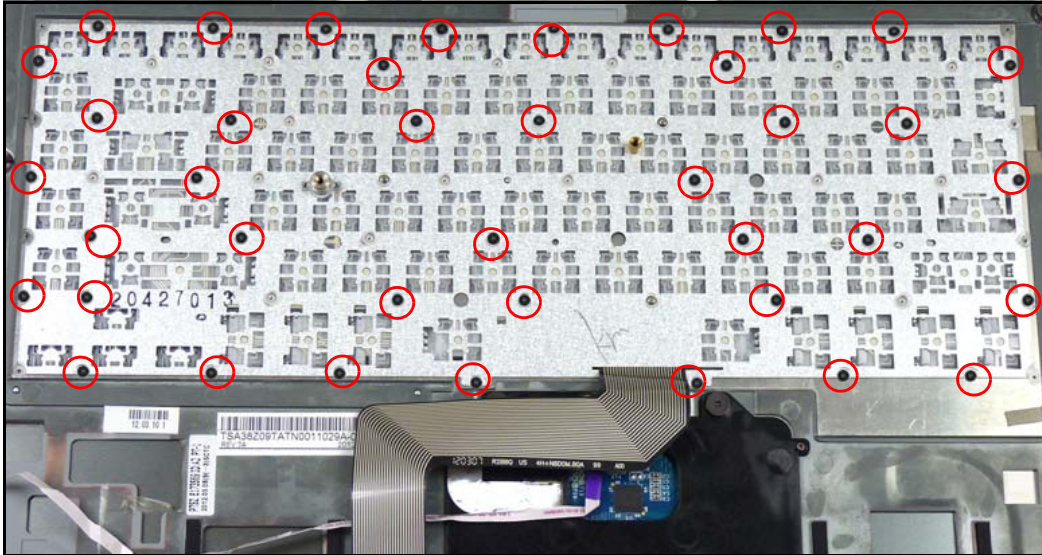

Figure 3-1. Keyboard Installation
2. Secure with screw(s), Figure 3-1.